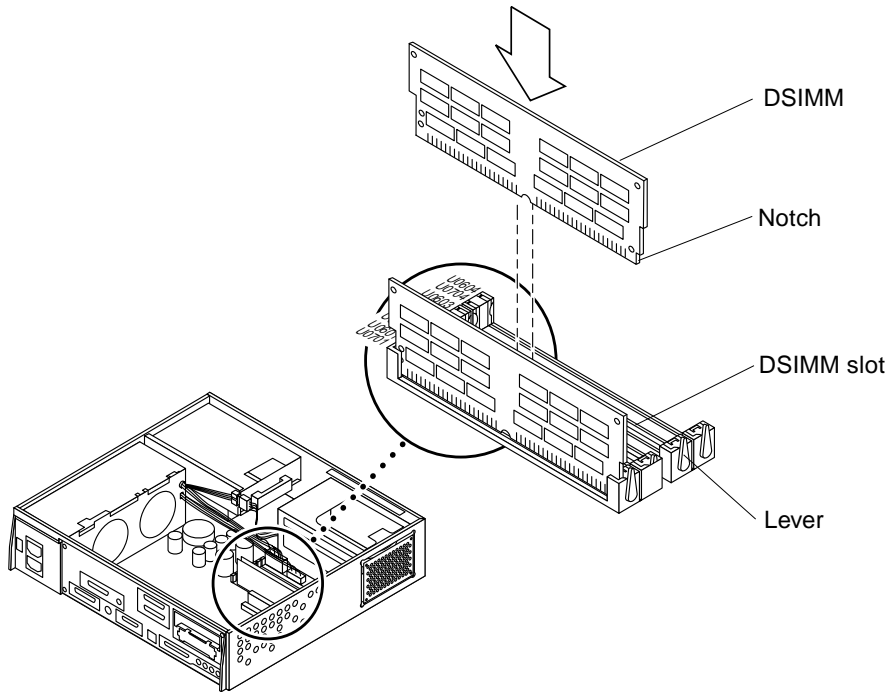

FIGURE 10-23 Installing a DSIMM
3. **Install the DSIMM as follows (FIGURE 10-23):**